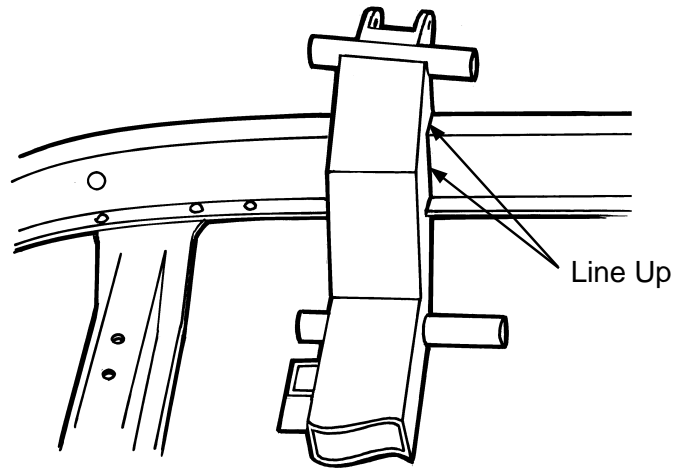

Figure 6
8. The upper control arm mounts are next. See Figure 6. They are positioned with the anti-dive angle of the upper arms higher in front, as shown. The upper mounts should line up with the main crossmember and should contact the entire top of the main crossmember. If the upper mounts do not fit up to the crossmember, grind the edges of the mounts where they sit on the frame. If there is a gap between the frame and the upper mounts, grind the edge where the upper mounts contact the crossmember. Care must be taken, however, to grind an equal amount off the entire edge so the angle of the upper mounts is not changed. Again, they should appear to be an extension of the crossmember. Now check the dimension across the upper mount tubes. That dimension should be 28 1/8". It is more im-